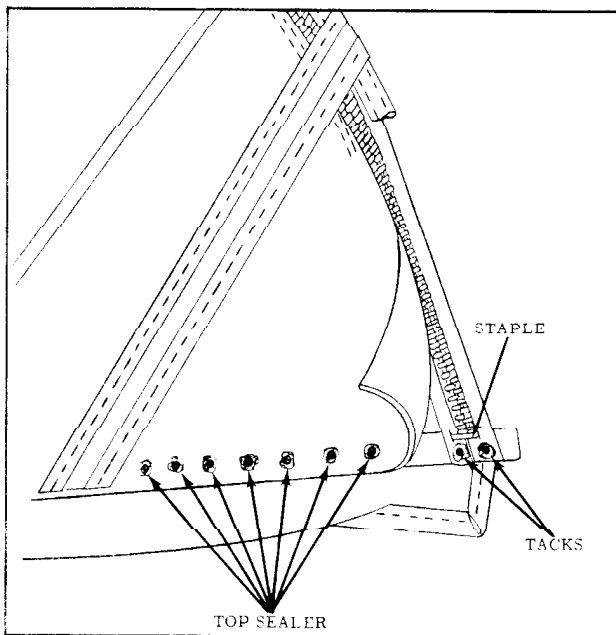

Fig. 15-111 Sealing at Rear Quarter Trim Stick
12. Staple both sections of zipper tape together. Staples will aid in preventing zipper scoops from disengaging and also serve as a stop for the slide fastener. (Fig. 15-111)
14. Tack zipper tape to rear quarter trim stick. (Fig. 15-111) Zipper tape should not be pulled taut as zipper teeth may show through top material after top has been properly installed.
18. Apply convertible top sealer (nitrile) around each tack head used to secure back curtain material and webbing to rear and rear quarter trim sticks. (Fig. 15-111)